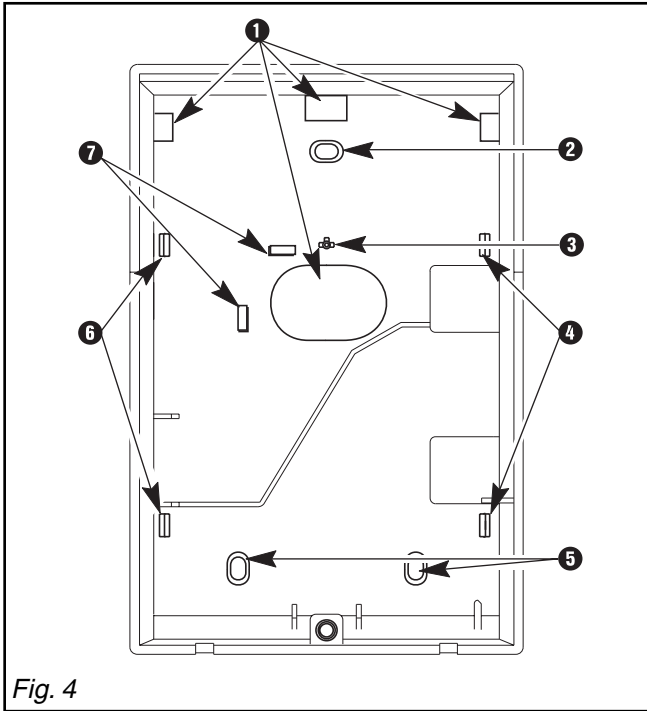

Fig. 4
3.4 Fit housing (Fig. 4)
- 1 - Remove the circuit board by spreading the crockets ④, ⑥.
- 2 - Pull the cable through the cable inlet ①.
- 3 - Secure the mounting base using three screws ②, ⑤.
- 4 - Use the cable clip ⑦.
- 5 - Focus the circuit board into the central rod ③ and snap it in the crockets ④, ⑥.